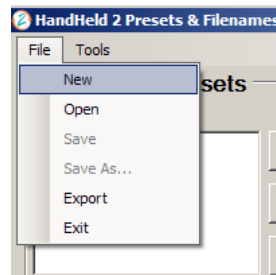

Figure 3-57: New preset
- Step 6 If this is the first time entering presets, click on New (Figure 3-57). If a preset file has previously been edited, a prompt will ask if that same file is to be opened again.